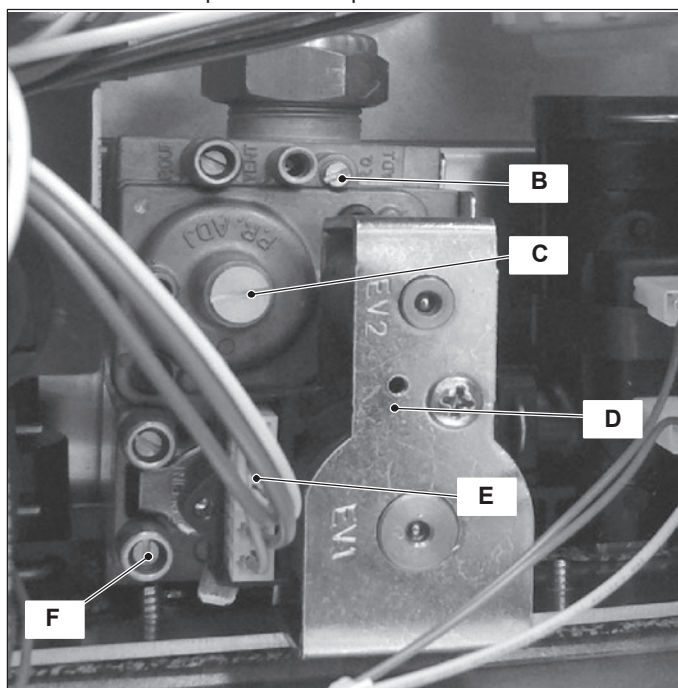
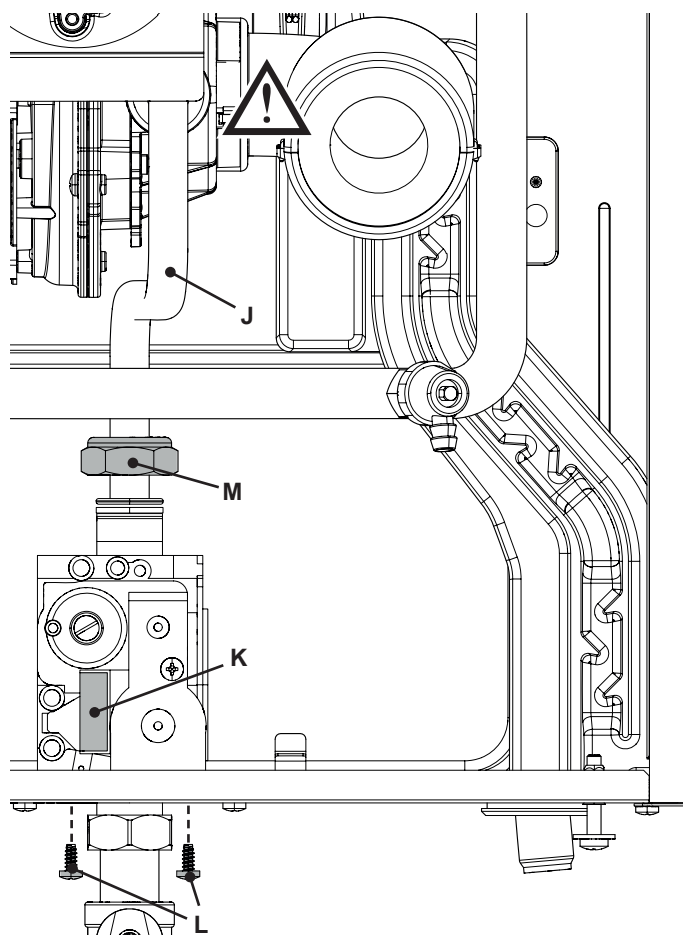

Figure 8.2
Figure 8.12
(Figure 8.2)
- 3 Loosen the internal screw on the Inlet Pressure Test Point "F" (Figure 8.2) of the Gas valve and connect a pressure gauge using a suitable hose.
- 10 Disconnect the pressure gauge and close the Inlet Pressure Test Point "F" (Figure 8.2).
To adjust the CO₂ % value remove the brass plug by unscrewing it and rotate the Allen key screw Ø 4 mm ("C" - Figure 8.2) (by rotating it clockwise the CO₂ % increases).
To adjust the CO₂ % value rotate screw ("B" - Figure 8.2) (by rotating it clockwise the CO₂ % decreases).
- 27 After adjustment fit the protective brass plug ("C" - Figure 8.2).
- 2 Disconnect the electrical connector "E" (Figure 8.2).
- 2 Disconnect the connector "K" (Figure 8.12), see also connector "E" (Figure 8.2).
- 4 Unscrew the connector "M" (Figure 8.12) and remove the pipe "J".
- 5 Unscrew the screws "L" and remove the valve (Figure 8.12).